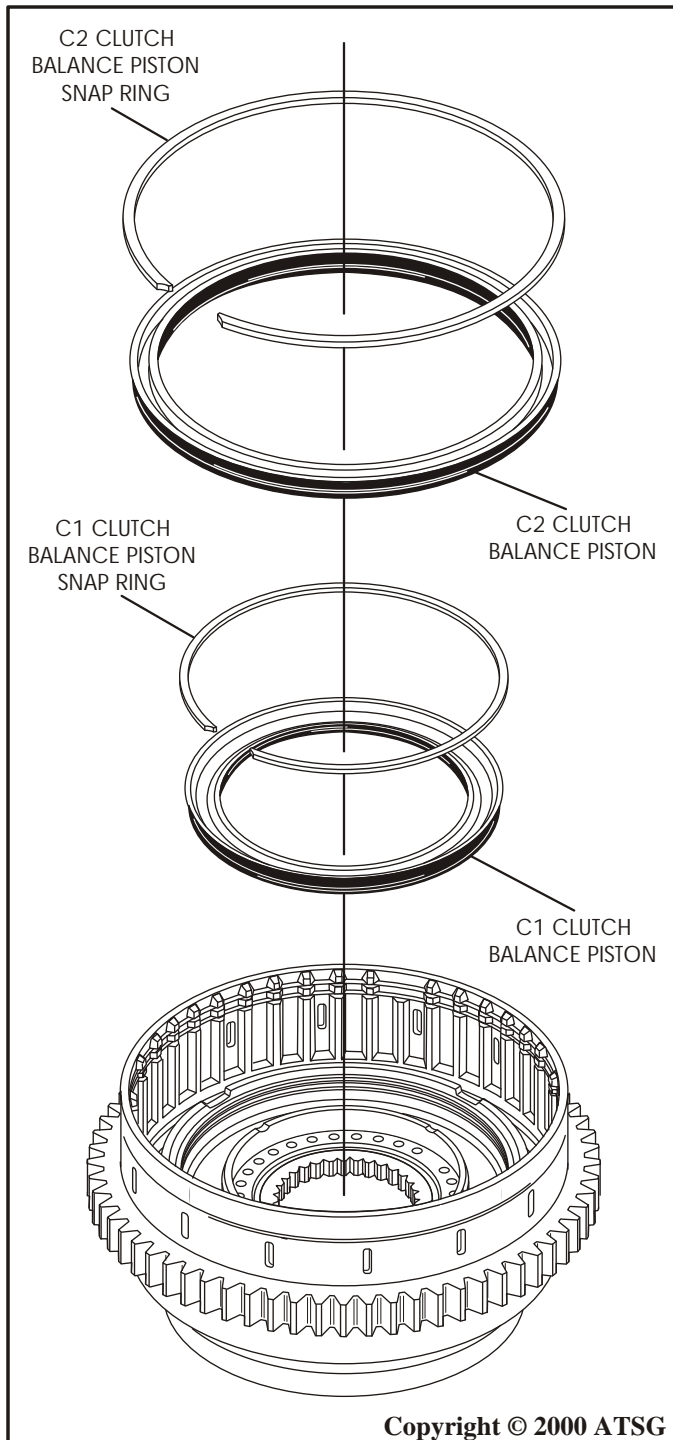

Figure 109
20. Lubricate the molded C1 clutch balance piston with small amount of TransJel®, and install in C1/C2 clutch housing (See Figure 109).
21. Install the C1 clutch balance piston snap ring as shown in Figure 109, and ensure that it is fully seated (See Figure 109).
22. Lubricate the molded C2 clutch balance piston with small amount of TransJel®, and install in C1/C2 clutch housing (See Figure 109).
23. Install the C2 clutch balance piston snap ring as shown in Figure 109, and ensure that it is fully seated (See Figure 109).